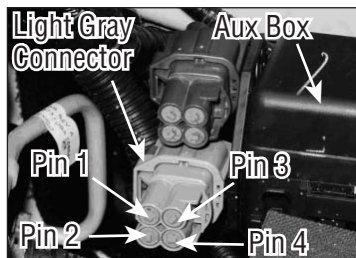

Fig. 4
4. Light Gray 4 PIN Connector (**Fig 4**)